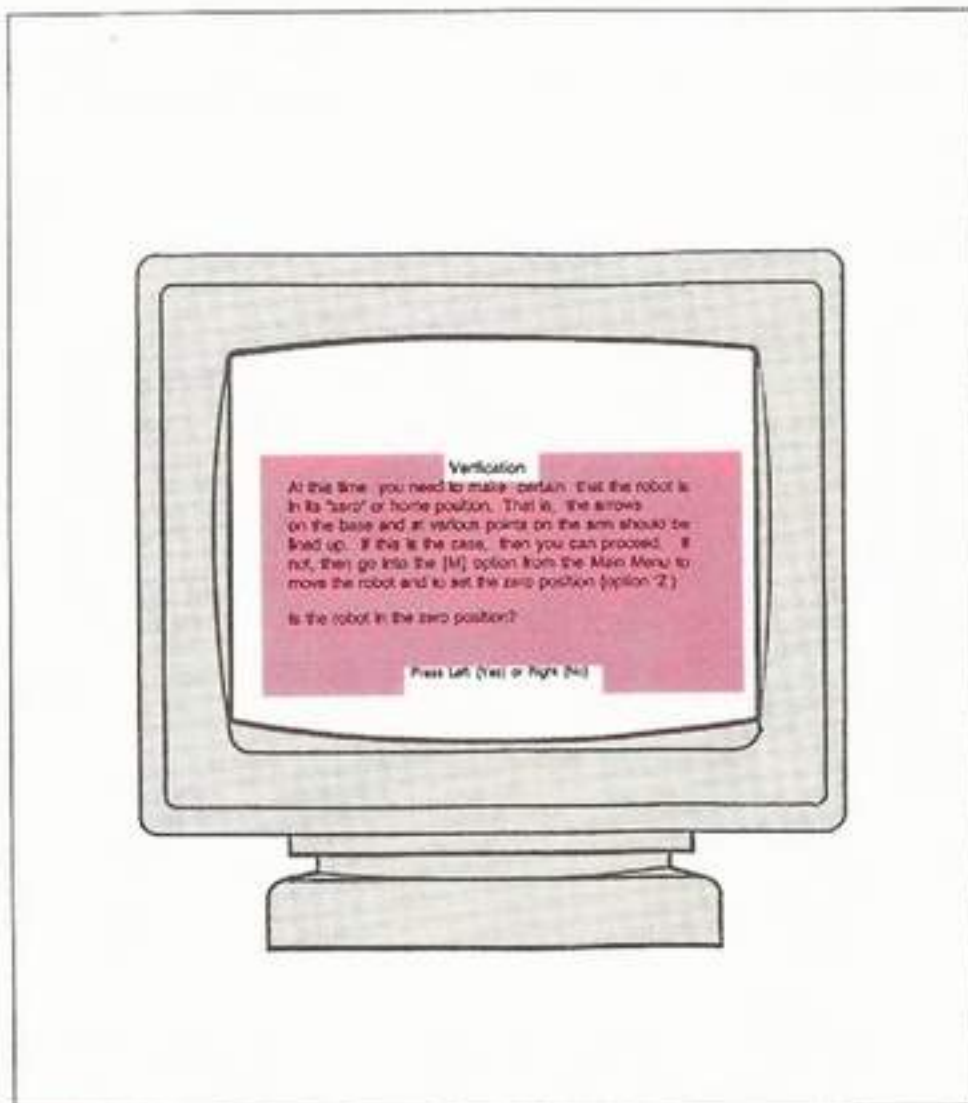

Fig. 47: The Zero-Position Verification Window
- ___ d. Press any key or button and at the Main Menu, select "Write a new program," and call it up (click or ENTER). Check to be sure that the NUM LOCK key is deactivated. *Note: The zero-position "Verification" window appears, as shown in Fig. 47.*